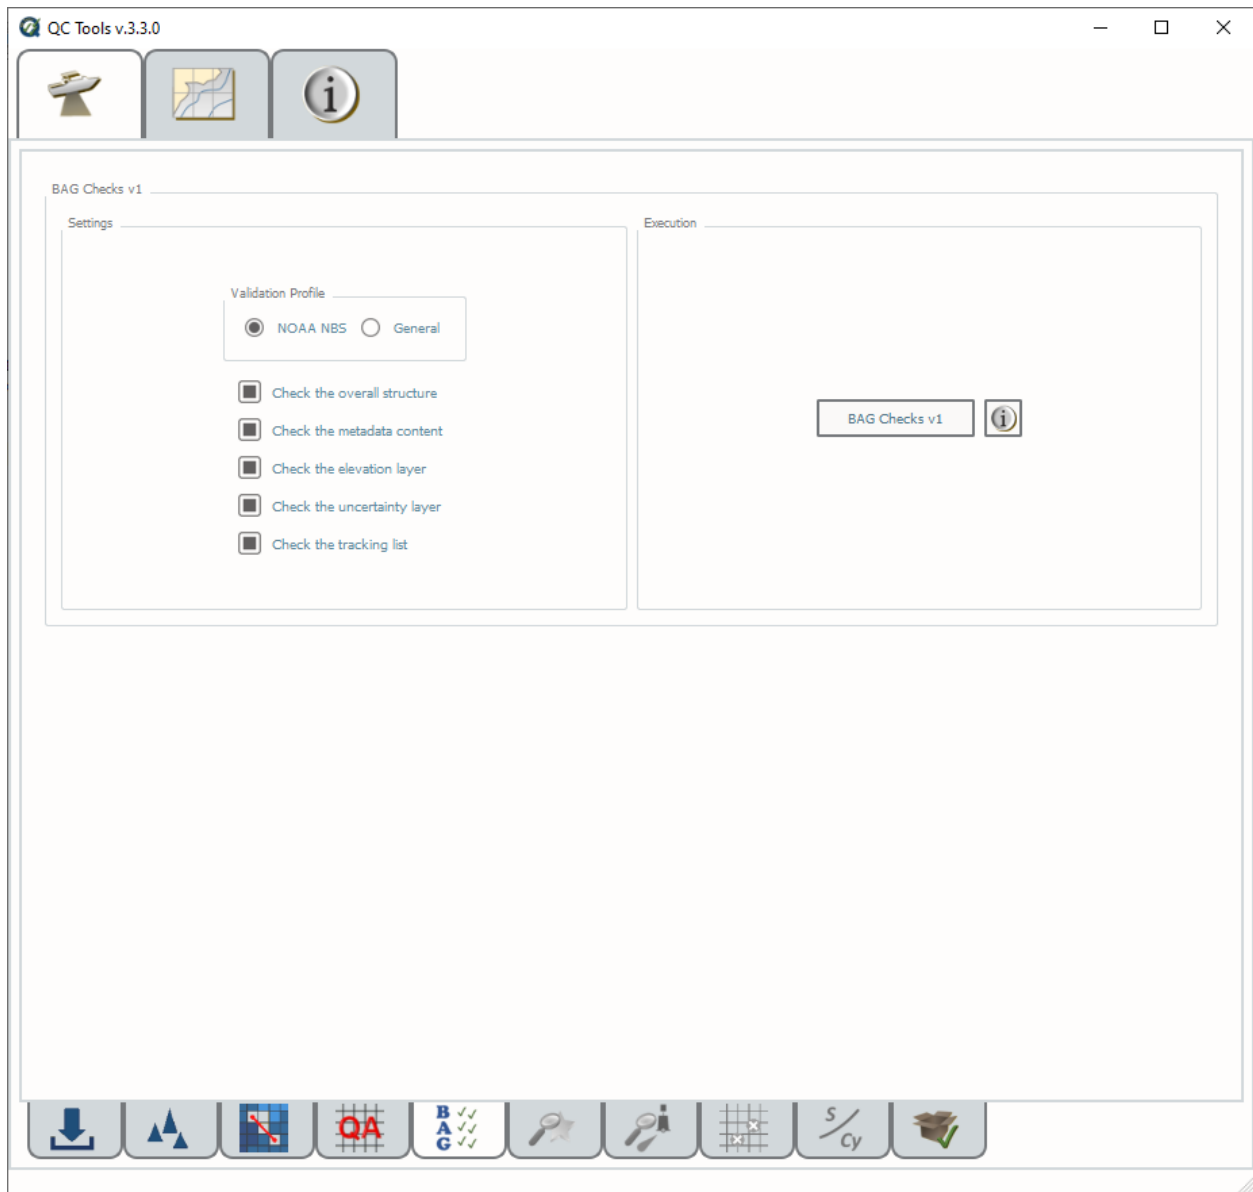

Fig. 2.21: The **BAG Checks** tab.
- Select the **BAG Checks** tab (Fig. 2.21) on the bottom of the QC Tools interface.